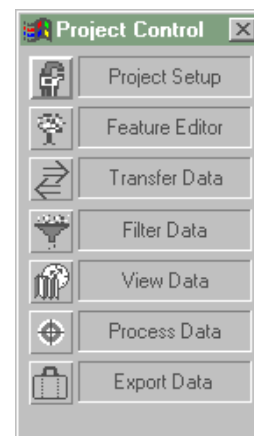
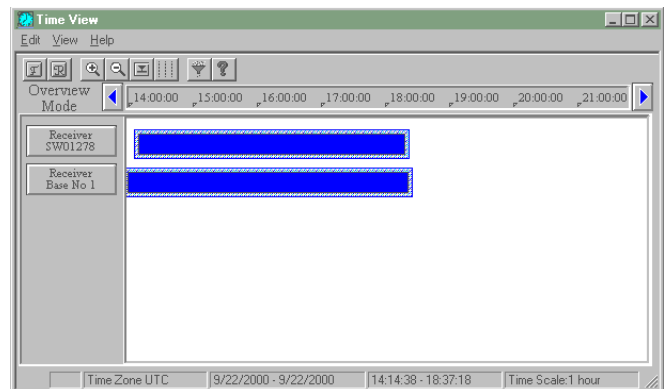
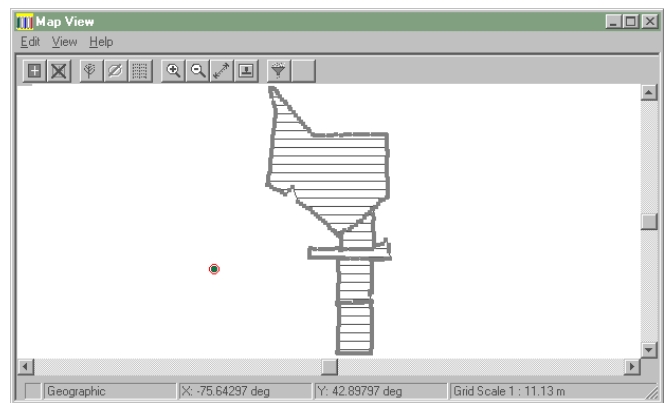
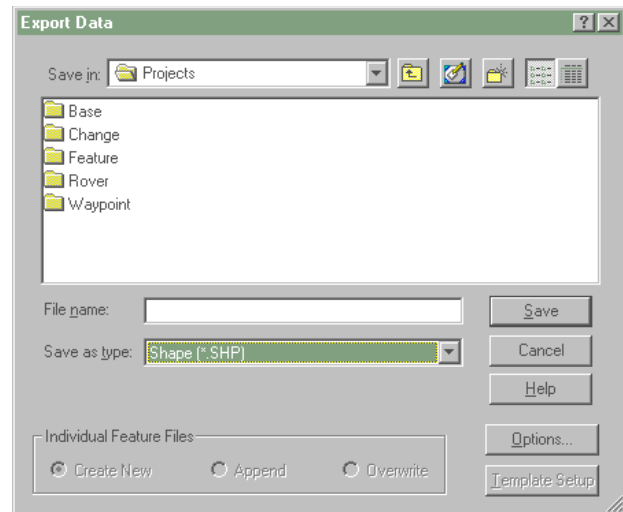

Figure 2. "Project Control" Window.
Figure 7. Sample “Time View Window”.
Figure 8. Sample “Map View” window.
Figure 10. “Export Data” window.
5. Enter the name of the new project and click the "Save" button (or select an existing project and click the "Save" button to overwrite). If you chose to "Open" an existing project, select the project and click the "Open" button. This will bring out the "Project Control" window as shown in Figure 2.
13. Click on the button that corresponds to the “View Data” option of the “Project Control” window (refer to Figure 2). A “Time View” window similar to the one shown in Figure 7 will appear. Also, a “Map View” window will appear below the “Time View” window (refer to Figure 8).
double-click any feature on the view to display the feature’s attributes (including the area for the area feature). Note, however, that differential corrections using base station measurements are not incorporated until after the “Process Data” option is executed from the “Project Control” window (Figure 2).
17. To export the GPS data, click the icon that corresponds to the “Export Data” option from the “Project Control” window (refer to Figure 2). Enter a filename in the “File name” entry and choose the type of export data file you wish to use from the “Save as type:” list box control (refer to Figure 10). Selecting “Shape (*.SHP)” as the type will produce a shape file for use in ArcView GIS.